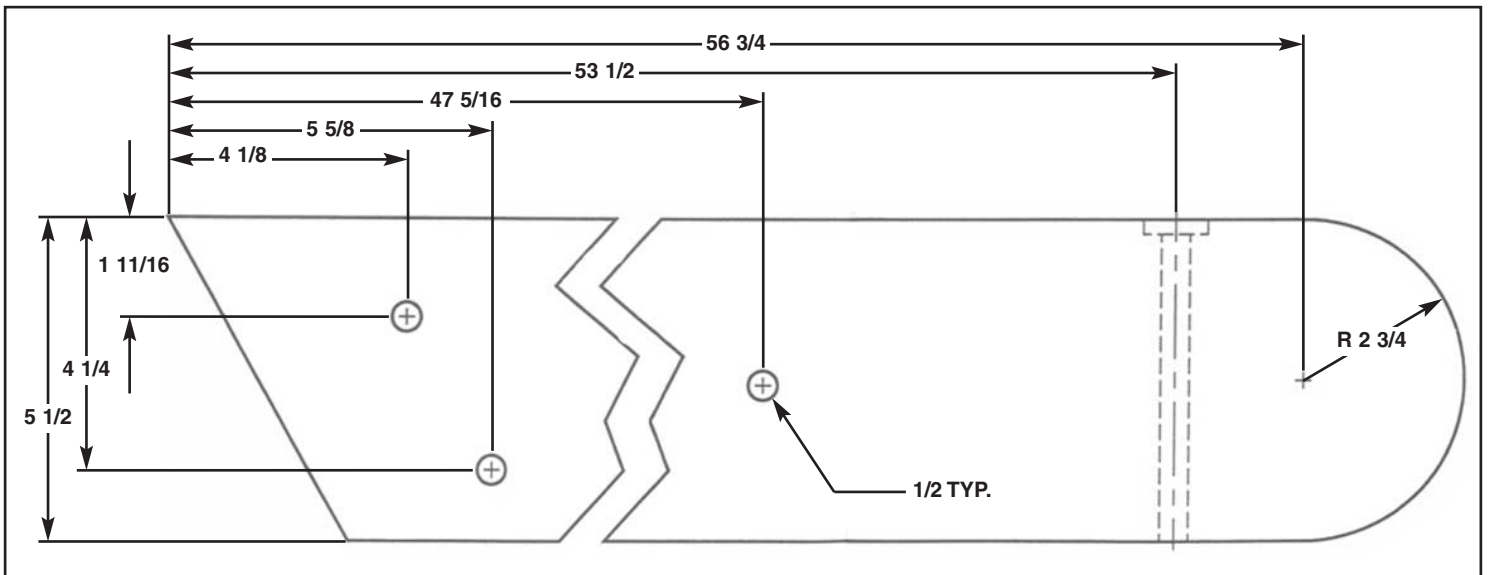

Figure 1
1. Cut all boards to the proper size. Refer to the cutting schedule and Figures 1 through 7.
3. Drill a  $1\ 1/8$ " hole  $1/4$ " deep on the top edge of board B. Drill a  $1/2$ " hole through the rest of board B. See Figures 1 and 2. Note: The  $1/2$ " hole must be parallel to the face of the board to ensure proper strength.